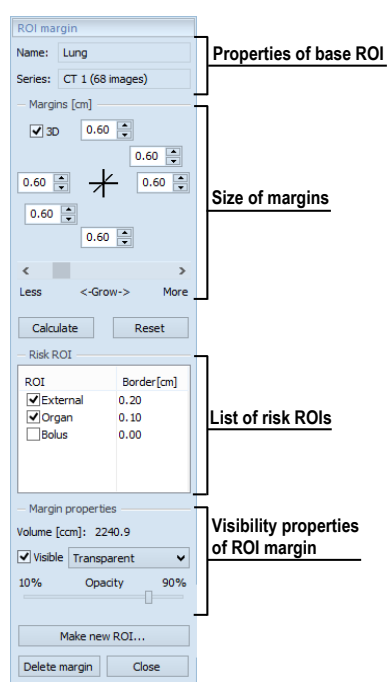

Figure 270 – ROI margin tool
3. The **ROI margin** tool is then automatically displayed as a new tab in the tools panel where you can define parameters for the ROI margin (see Figure 270).